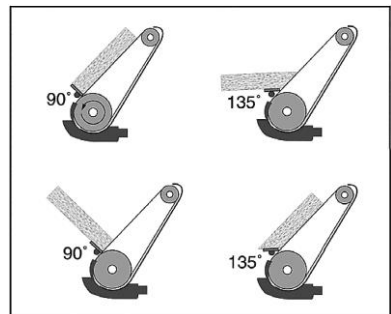

Fig. 6
1. Before starting the machine, adjust the angle of the tool rest so your workpiece is supported and the area you wish to sand is parallel with the sanding belt as illustrated in Figure 6.